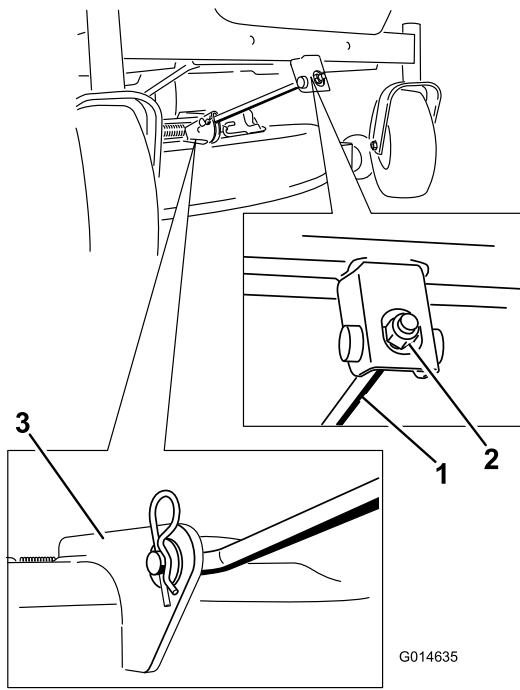

Figure 58
4. Remove the hairpin cotter from the front support rod and remove the rod from the deck bracket (Figure 58).
- 6. Attach the front support rod to the mower deck with the clevis pin and hairpin cotter (Figure 58).